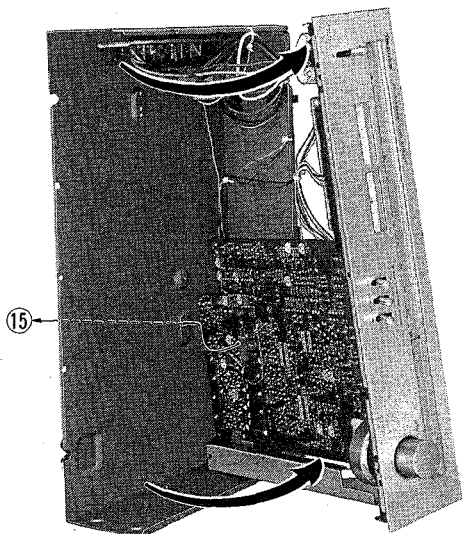

Fig. 4
6. Remove 1 setscrew (No. ⑮ in Fig. 4) of the printed circuit board.
7. Then the chassis can be removed as shown in Fig. 4.